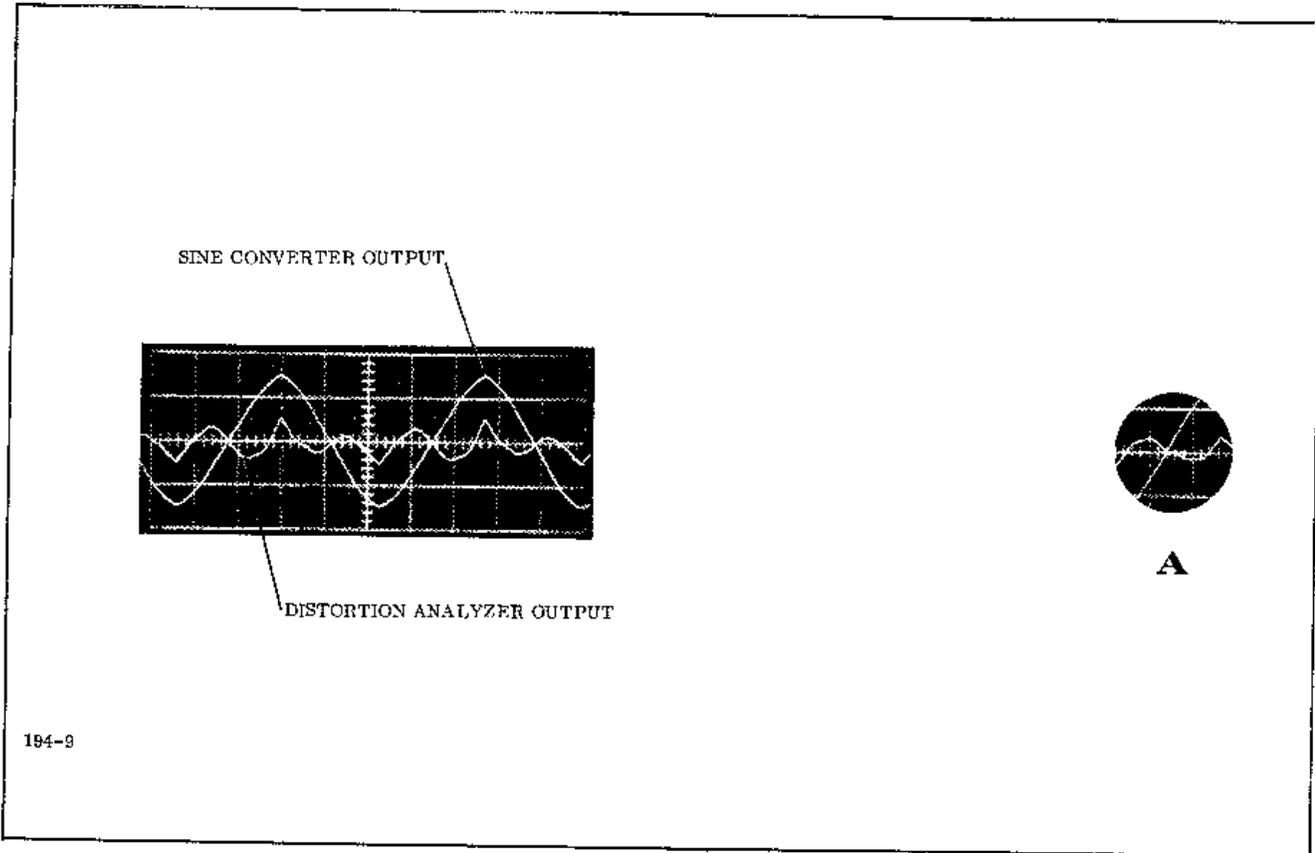

Figure 5-3. Sine Converter Board Output Wave Form
3. Set frequency to 9.99 and X100; see Figure 5-3 for waveform with oscilloscope on alternate sweep and external trigger.
4. Adjust R25 until a burble near the axis crossing appears. Center the burble at the axis crossing with R30 (A, Figure 5-3).